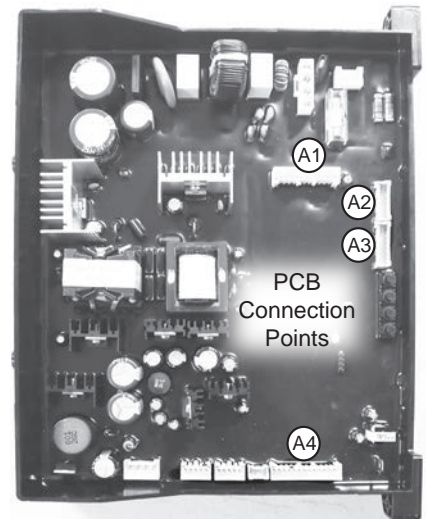

Figure 36 - Disconnecting wires A1-A4
- 12 Disconnect wiring harnesses A1 - A4. See Figure 36.